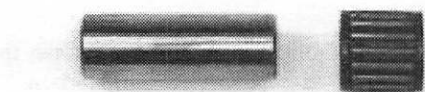

Figure 64
1. Visually check the piston pin (1, Figure 64) for any type of defect, cracks, color change or abnormal wear. An overheated piston pin will have a blue discoloration.
2. Inspect the needle bearing (2, Figure 64) for damage.